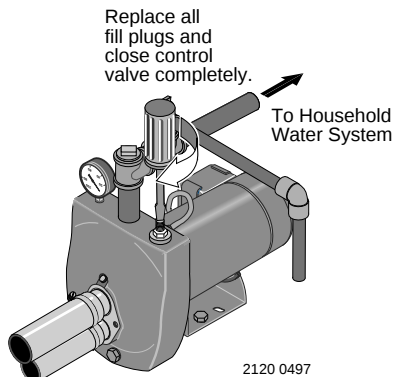

Figure 10: Prime Pump
- Step 2. Replace all fill plugs and close the control valve completely (Figure 10).